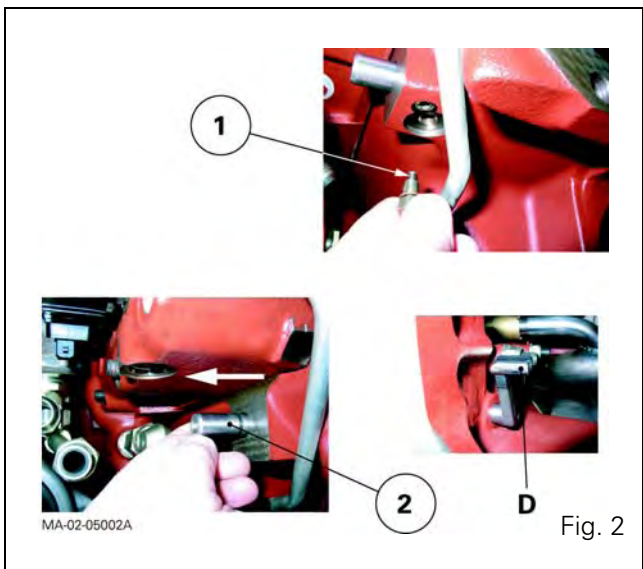
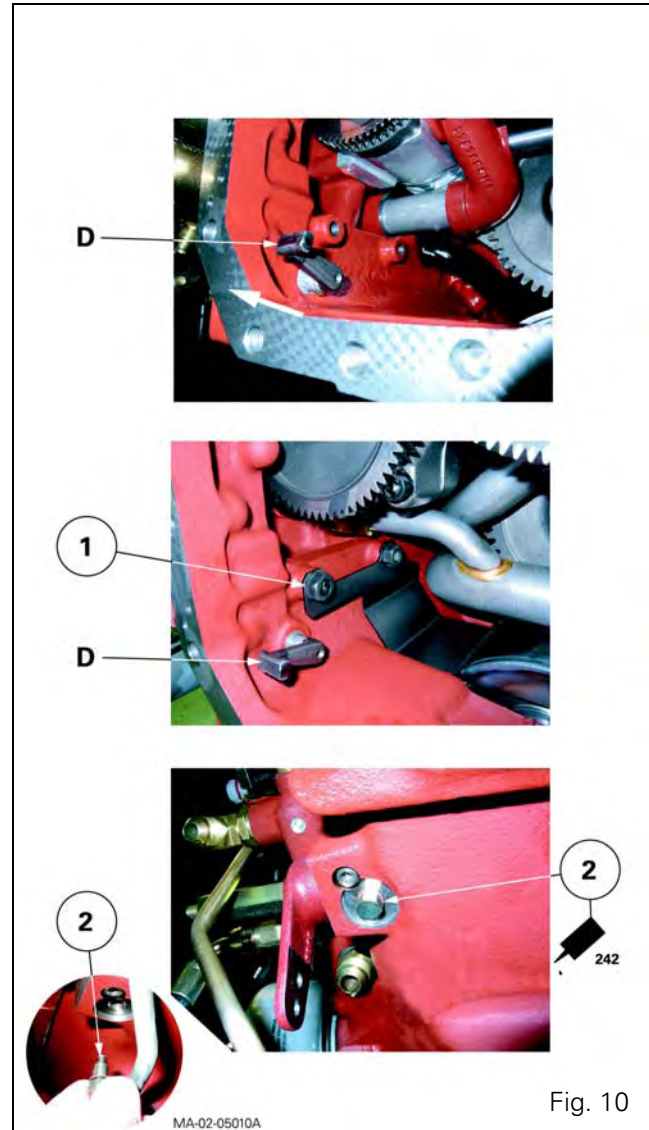

Fig. 2
Fig. 10
On tractors fitted with creeper gears (Fig. 2):
NOTE: The rotation of the control finger "D" of the creeper gears is limited by the presence of the studs and nuts assembly (1) in the centre housing. (Tractors with closed centre hydraulics—Fig. 10).
40. Pull the pin (2) outwards (Fig. 2) and direct the "D" finger towards the front of the centre housing (Fig. 10).
NOTE: Engage the "D" finger (Fig. 10) in the creeper gear fork and position the seal on the screw (2) (Fig. 10) after lightly smearing it with Loctite 242 or equivalent. Tighten the screw moderately.